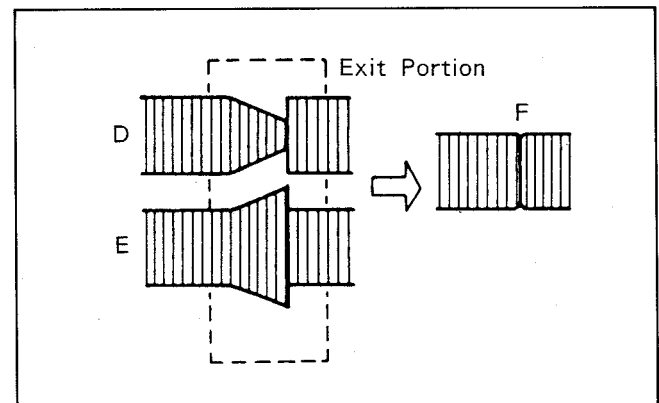

Fig. M9
5. If the RF envelope appears like example "D" or "E" in Fig.M9, then adjustment of the tape guide post (P3:Exit) is necessary.
6. Adjust the tape guide post (P3) in the same manner as the P2 post so that the exit portion becomes flat as shown in Fig.M9—"F".